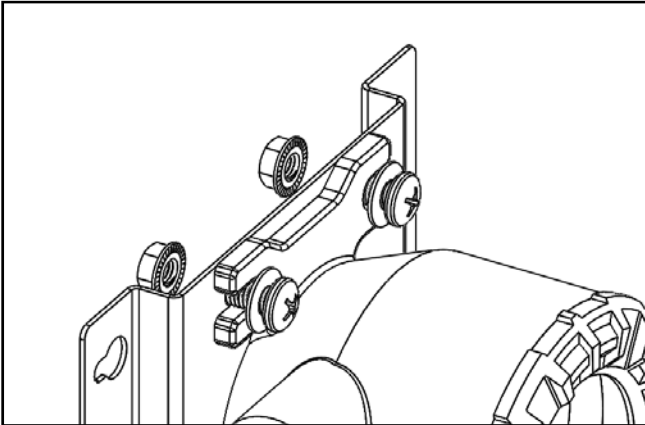

Figure 1
- (1) Align the mounting tabs of the Ultima X5000 with the holes on the mounting bracket.
- (2) Loosely install the two $\frac{3}{4}$ " pan head screws, washers, and locknuts provided in the sunshield kit on the top mounting tabs (where the sunshield will be attached) as shown below in Figure 1.